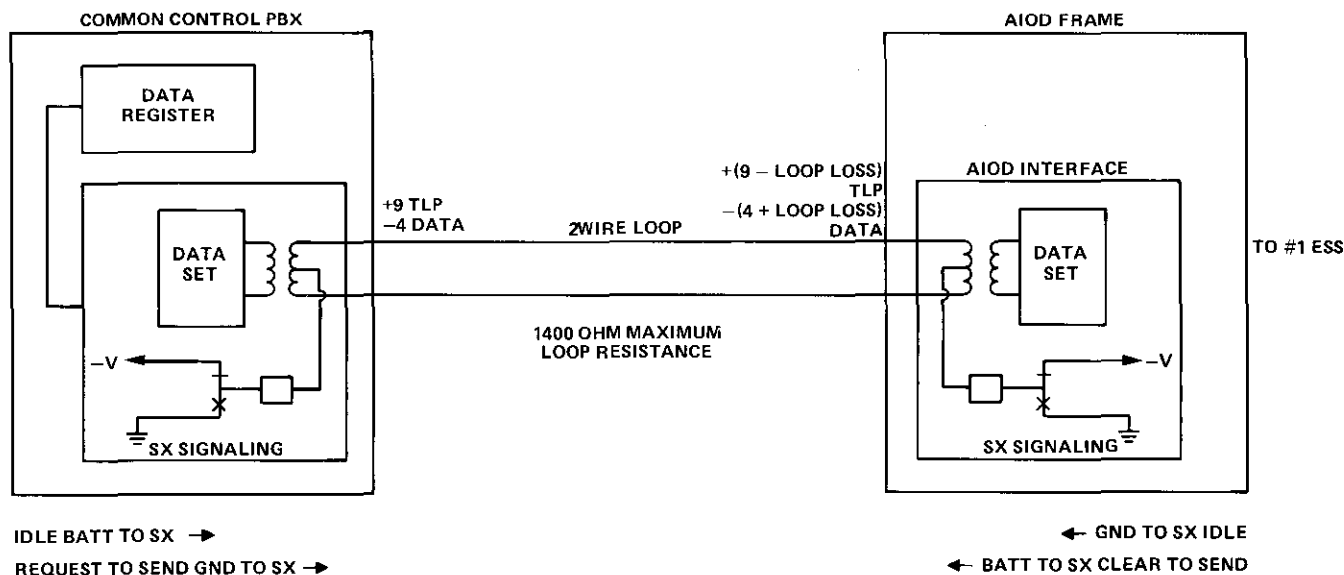
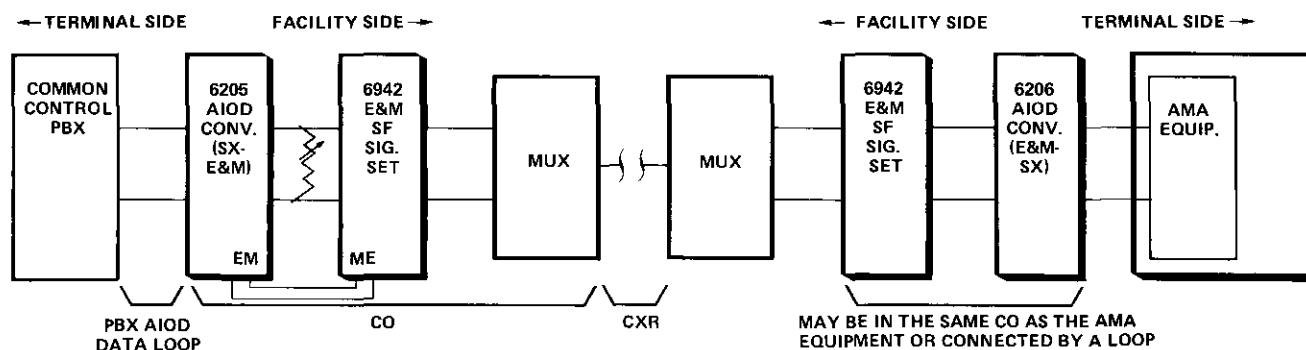
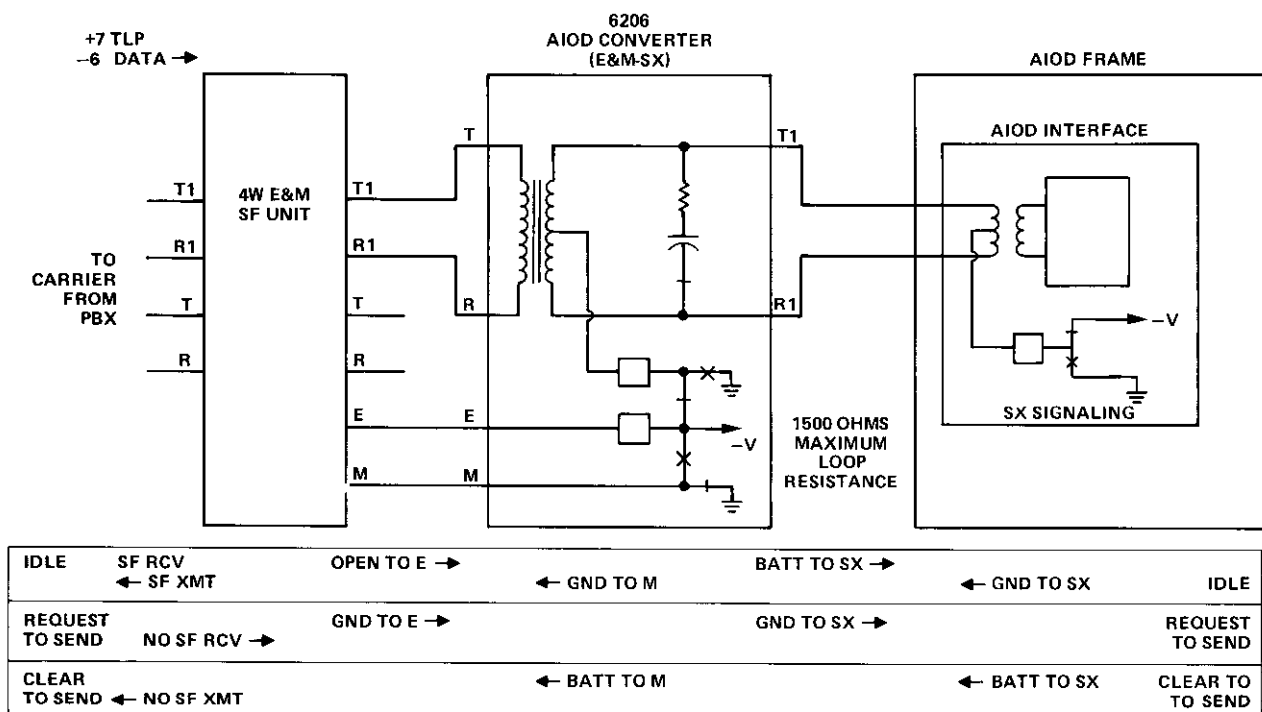

figure 2. Typical local AIOD arrangement
figure 3. Typical 6206 application
figure 4. Simplex and E&M states in a typical 6206 application
2.01 The 6206 AIOD Converter module is used in a central office providing Automatic Message Accounting (AMA) service to a remote AIOD-equipped PBX. When AMA equipment is located in the central office serving the PBX, signaling conversion equipment is not usually required (see figure 2). When the serving CO cannot accommodate AIOD service, however, access to an AMA register must be extended to a larger office. This extension may be via inband SF signaling, duplex (DX) signaling, or via a PCM (D-type) channel bank. A Tellabs 6205 AIOD Converter module is typically used at the central office serving the PBX to derive E&M signaling from the simplex signaling provided by the PBX AIOD circuit. At the other end of the E&M signaling link, the 6206 converts the E&M signaling into simplex supervision toward the AMA equipment. Figure 3 shows one typical circuit using the 6206.
The remainder of section 2 discusses operation of the 6206 in a typical application. Figure 4 shows the simplex and E&M states involved in such applications. Keep in mind that at the distant end of the circuit, similar signaling-state changes will take place, possibly via a Tellabs 6205 AIOD Converter (SX-E&M) module (see figure 3).